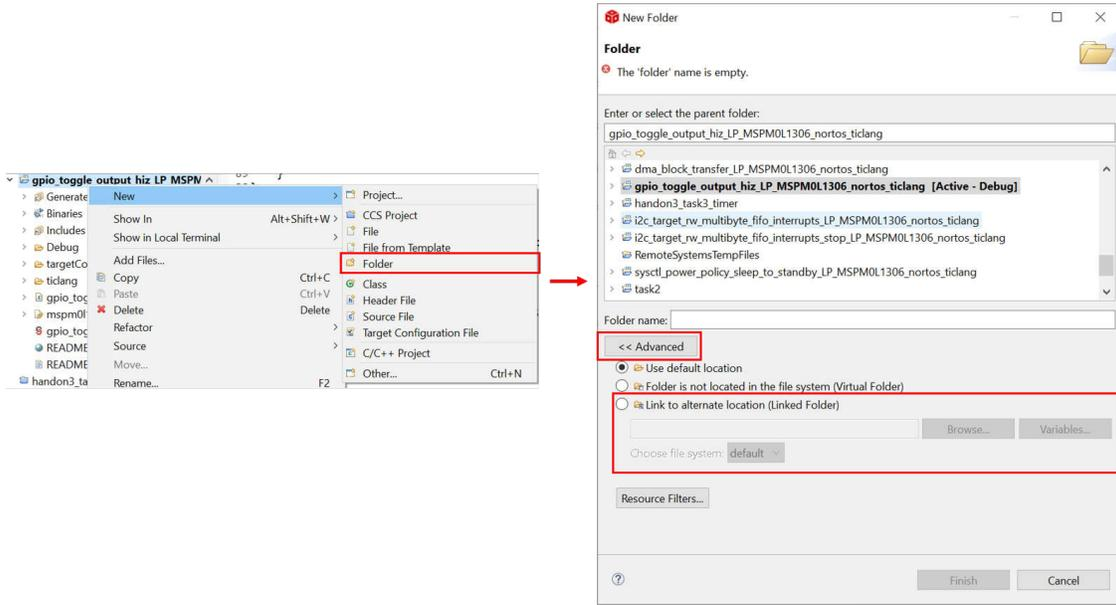

Figure 2-35. Add Relevant File
7. To add third-party libraries, follow the steps below. First, add relevant file into the project as shown in Figure 2-35.